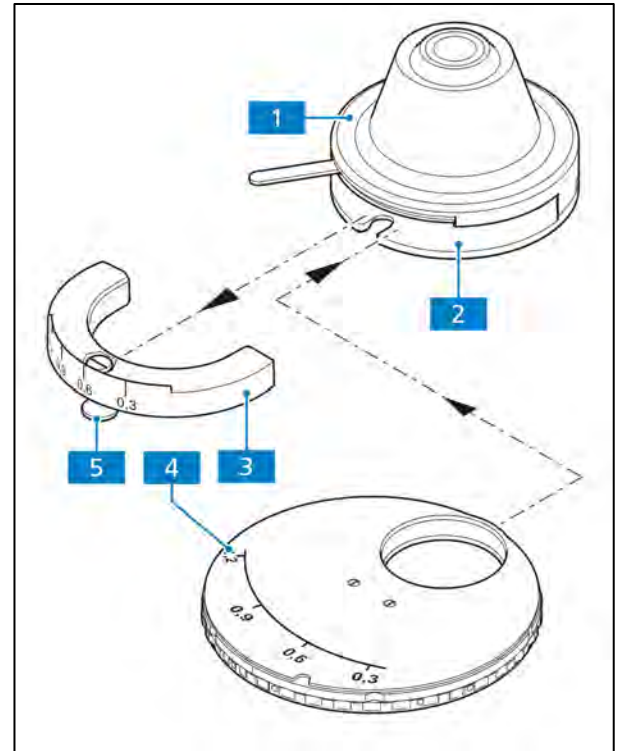

Fig. 3-30 Modulator disk in condenser 0.9 H Pol
- Remove the condenser (Fig. 3-30/1) from the condenser carrier (see section 3.1.8).
- Loosen the clamping screw (Fig. 3-30/5) of the condenser's dial segment (Fig. 3-30/3) with the Allen wrench (AF 3) and pull out the dial segment.
- Slide the modulator disk (Fig. 3-30/4) with its two-pronged forked opening pointing forward into the condenser. Make sure that the disk engages in the guide on both inner sides of the condenser. The guide serves as a stop for the modulator disk. The pin of the disk's clamping screw must slide into the orientation groove of the condenser.